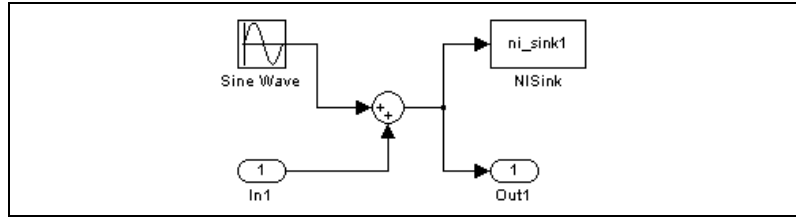

Figure 5. SineWave Model
8. Wire the sources, functions, and sinks so the model looks like the diagram in Figure 5.